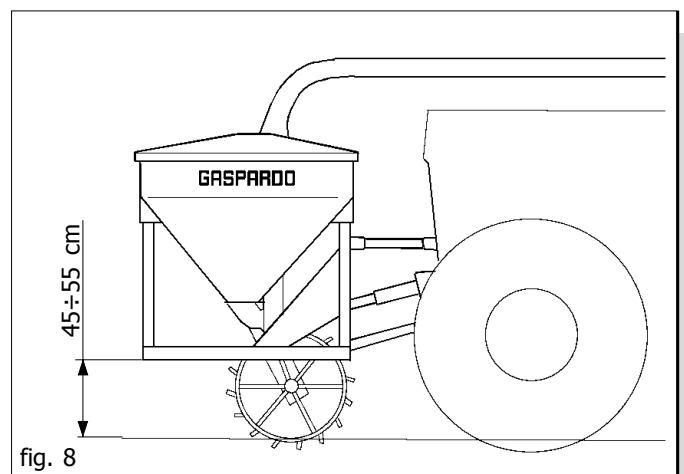

fig. 8
- 9) Raise the front machinery and remove the feet. In order to guarantee the rotation of the transmission wheel, adjust the working height of the machinery from the ground (45 – 55 cm Fig. 8). This distance must remain constant during operation.